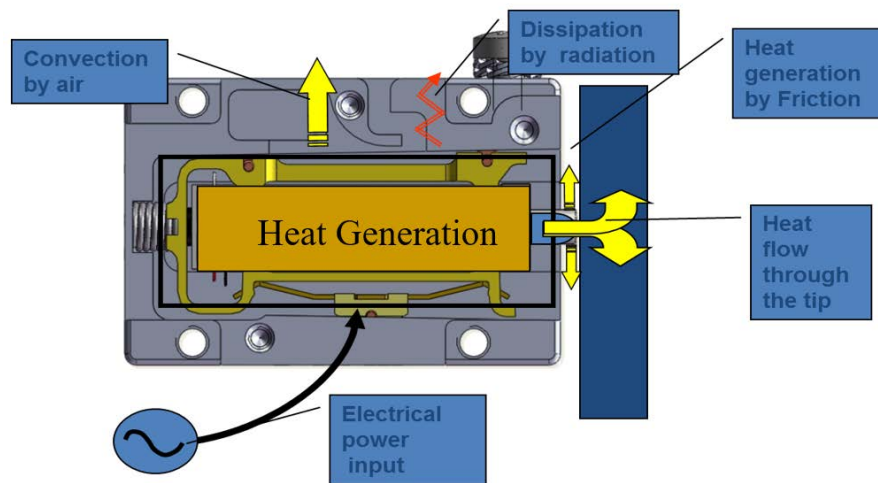

Figure 33: Heat Dissipation
- Heat is dissipated through the following heat transfer mechanisms: conduction, radiation, and convection (the convection mechanism is negligible in a vacuum environment) (See Figure 33).